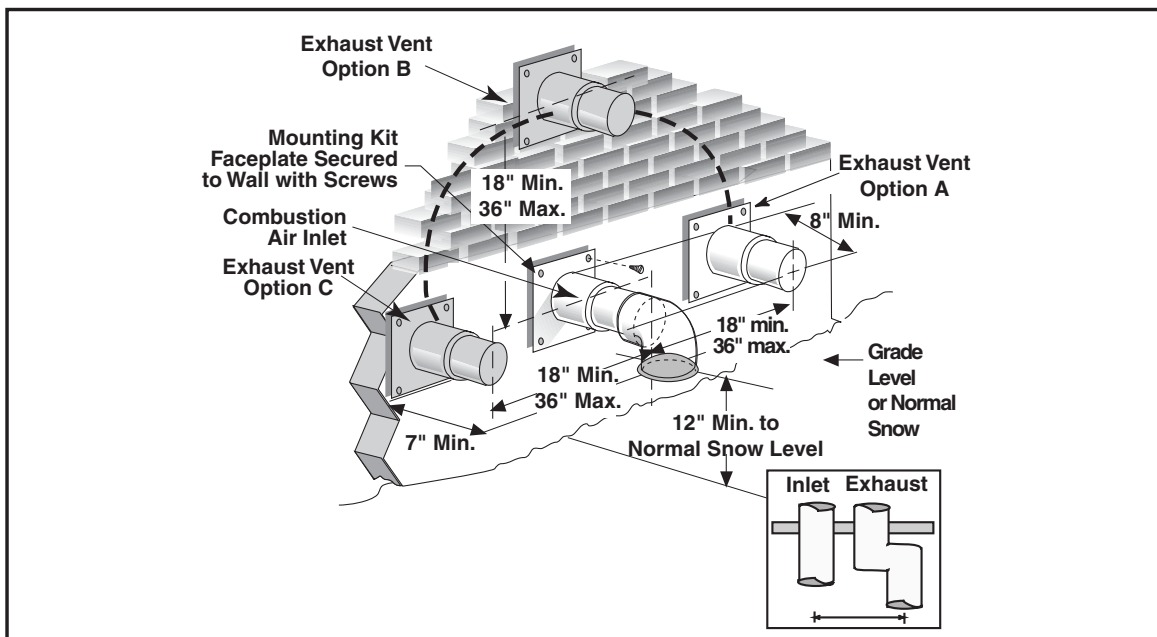

Figure 16. Exhaust and Combustion Air Pipe Clearances
Ensure that the combustion air vent and the exhaust vent are configured as shown in Figure 16. Improper vent termination can cause recirculation of the flue gases. This may result in furnace vibration. In severe cases, the furnace will cycle due to the intermittent contact between the flame and the flame sensor. If you note oscillations occurring, check the vent configuration. Make sure that the exhaust vent does not have a 90 degree termination.
4. Insure the combustion air inlet pipe (for a 2 pipe installation) has a 90 degree termination elbow as shown in Figures 16 and 17.